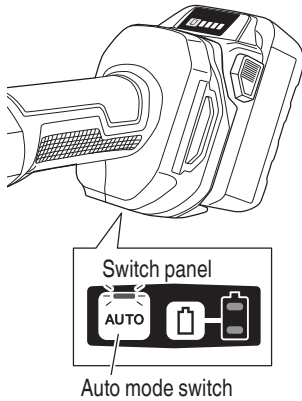

Fig. 14
- About the mode change function (Fig. 14)